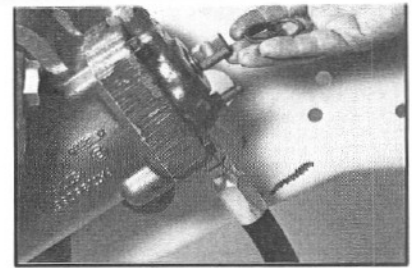

Figure 23
- 2.6 The air pressure will force the two-piece input shaft seal (7 and 8) and the steel backup washer (6) to pop out of the gear, and some fluid will leak from the gear (FIG. 23). Discard the two-piece seal. Disconnect the shop air as soon as the seal assembly is out.